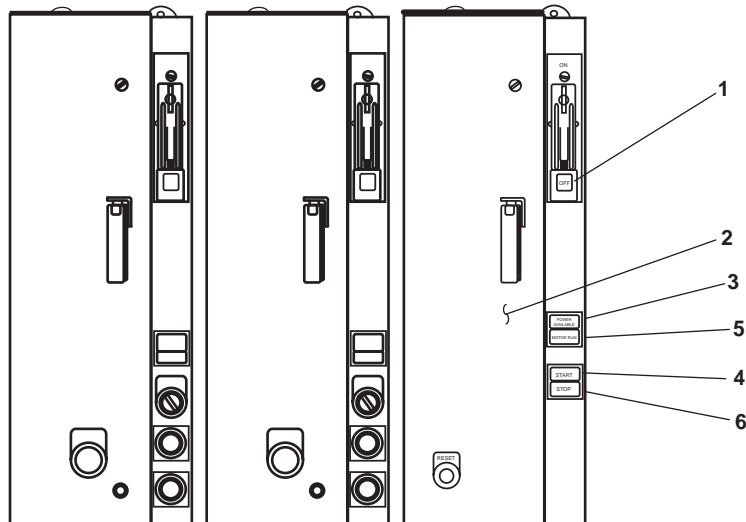

Figure 6. AFFF Pump Motor Controller
8. Set the ON/OFF switch (figure 6, item 1) on the AFFF pump motor controller to ON (figure 6, item 2).
9. Verify that the POWER AVAILABLE indicator (figure 6, item 3) is illuminated.
10. Press the START button (figure 6, item 4).
11. Verify that the MOTOR RUN indicator (figure 6, item 5) is illuminated.
19. Press the STOP button (figure 6, item 6) on the AFFF pump motor controller (figure 6, item 2).
20. Set to OFF the ON/OFF switch (figure 6, item 1) on the AFFF pump motor controller (figure 6, item 2).